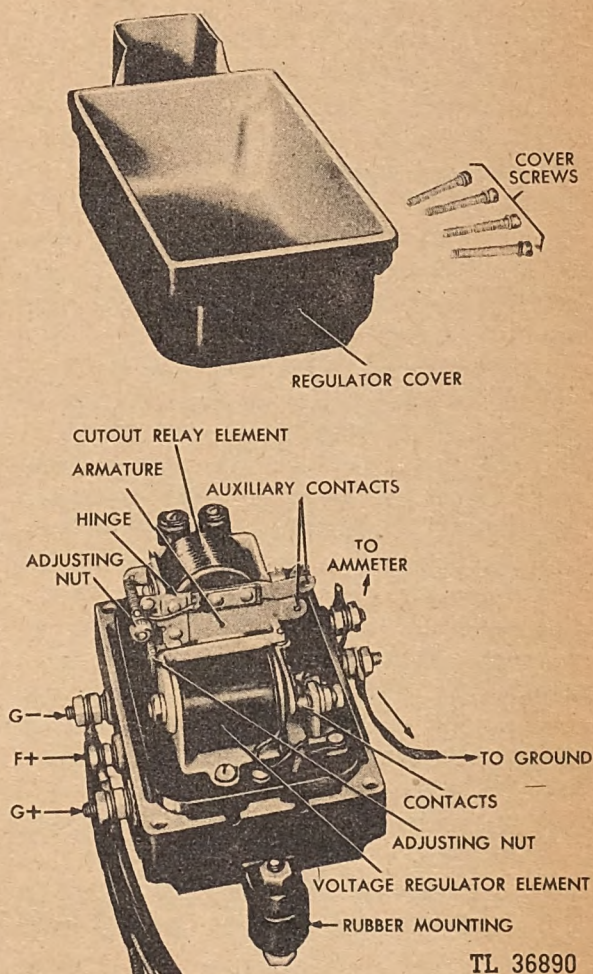

Fig. 238. Voltage Regulator
b. *Regulator Theory of Operation.* The regulator (24-volt Control Unit) used with the generator contains two elements in the same box—a voltage regulator and a cutout relay, together with control resistances which are mounted at the top of the box. This unit is designed to be mounted in a vertical position with its two mounting lugs at top and its single lug at the bottom. This places three terminals on the left and two on the right. (See Figure 238.)